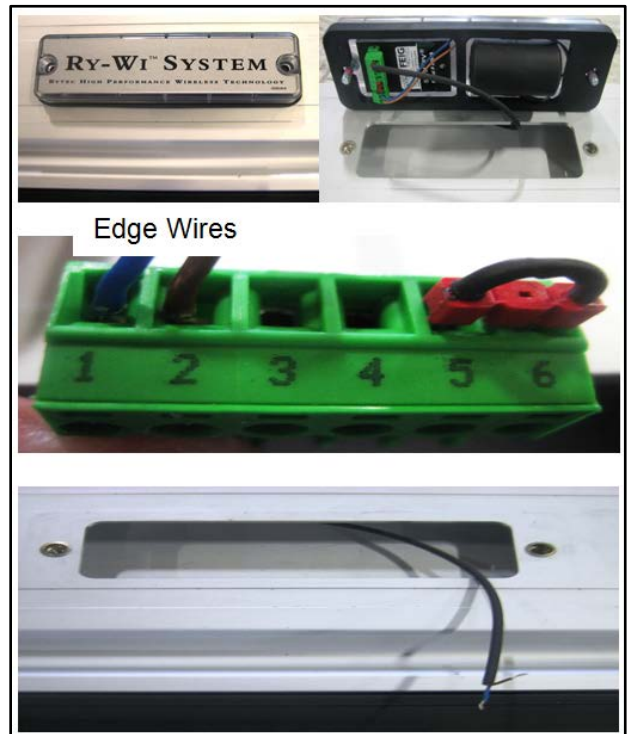

Figure 79
5. Disconnect the reversing edge control wires from the mobile unit terminal block. (See Figure 79.)